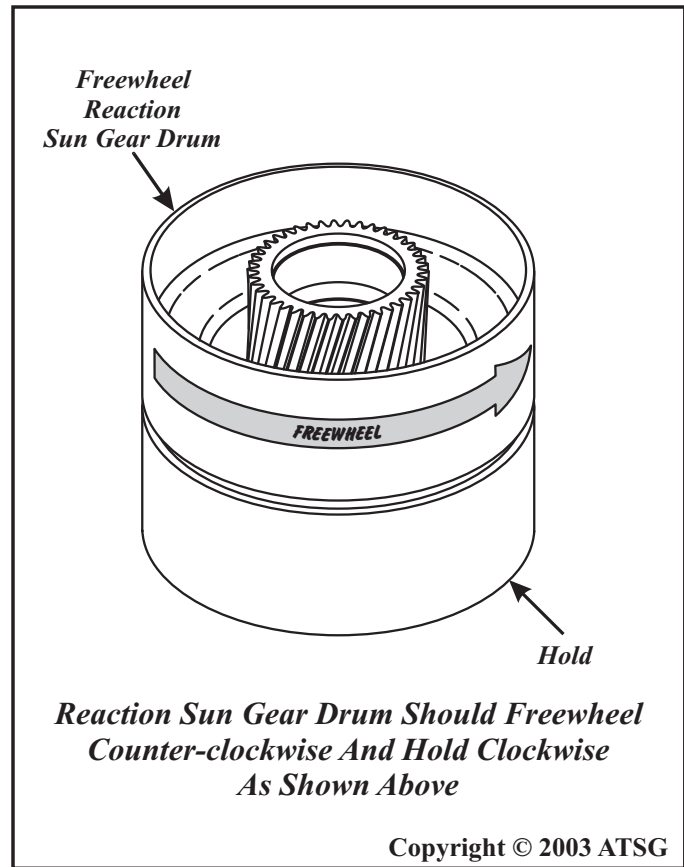

Figure 104
5. Position the 1-2 support assembly on bench as it would be in unit (See Figure 104).
6. While holding the 1-2 roller clutch support, the sun gear drum should rotate **counterclockwise** only, as shown in Figure 104.